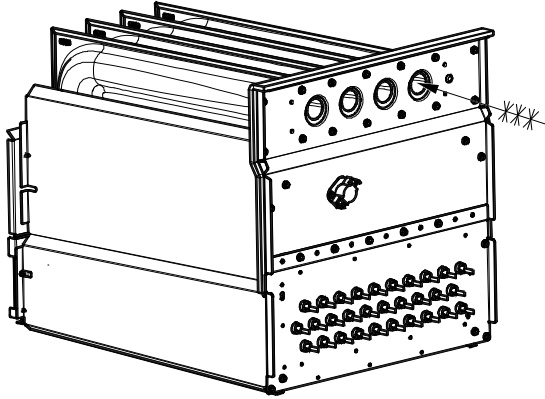

Fig. 71 – Cleaning Heat Exchanger Cell
7. Clean the heat exchanger openings with a vacuum and soft brush (Fig. 71).